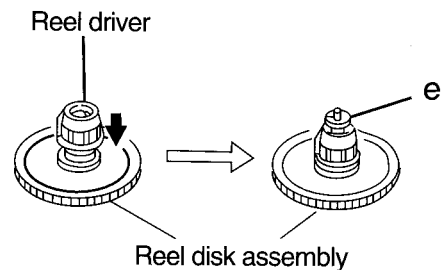

Fig. 7
■ **Removing the Reel Disk Assembly (See Fig. 7)**